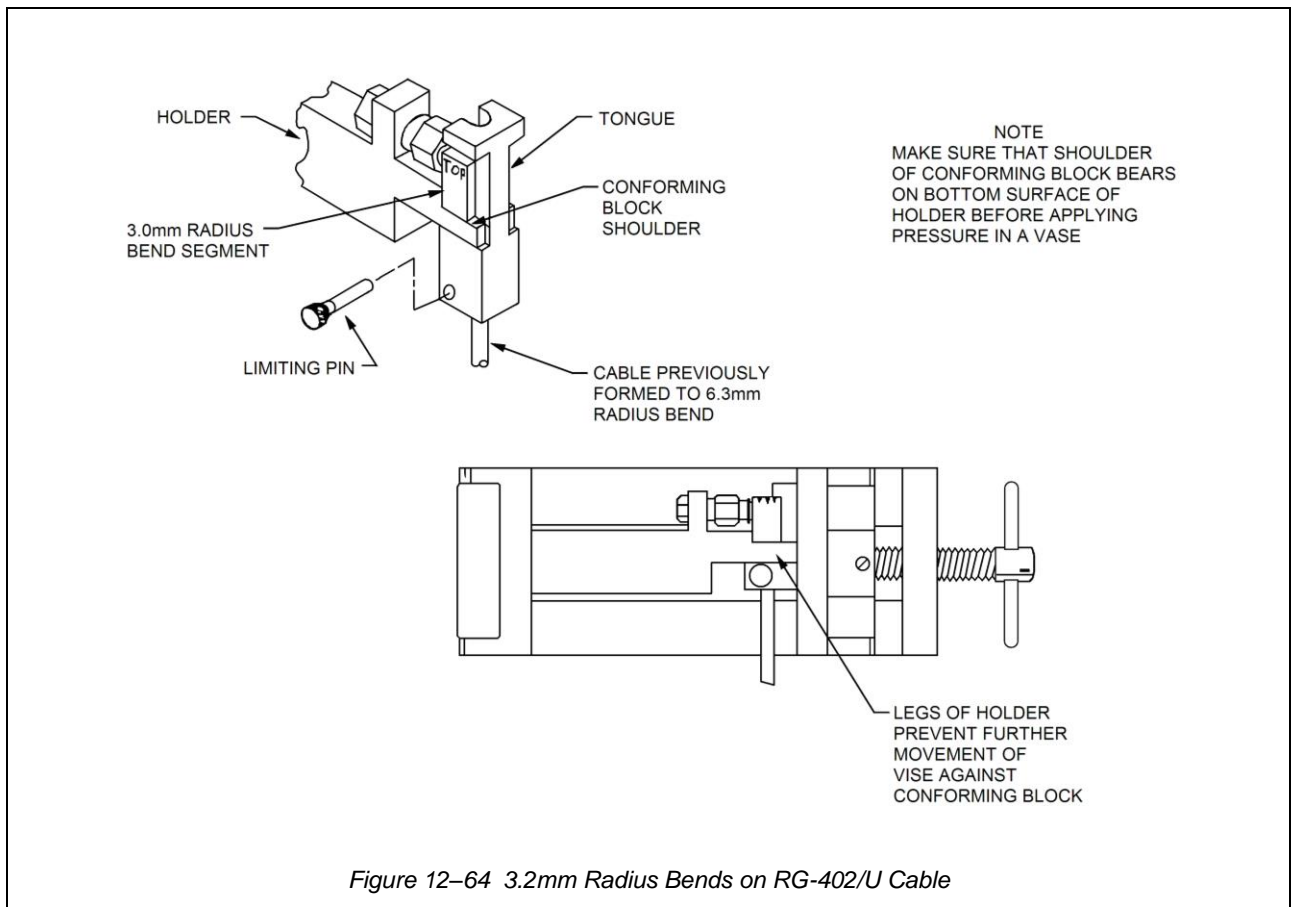

Figure 12-64 3.2mm Radius Bends on RG-402/U Cable
- 49. Refer to Figure 12-64, and proceed as follows:
- e. Place conforming block over cable with tongue of block in slot of holder (see Figure 12-64).